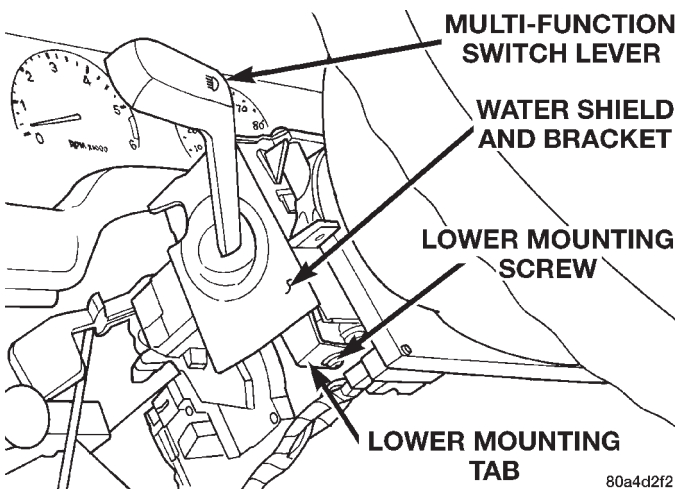

Fig. 7 Water Shield Lower Screw Remove/Install
(7) Remove the one screw located below the multi-function switch control stalk that secures the multi-function switch water shield and bracket to the steering column (Fig. 7).